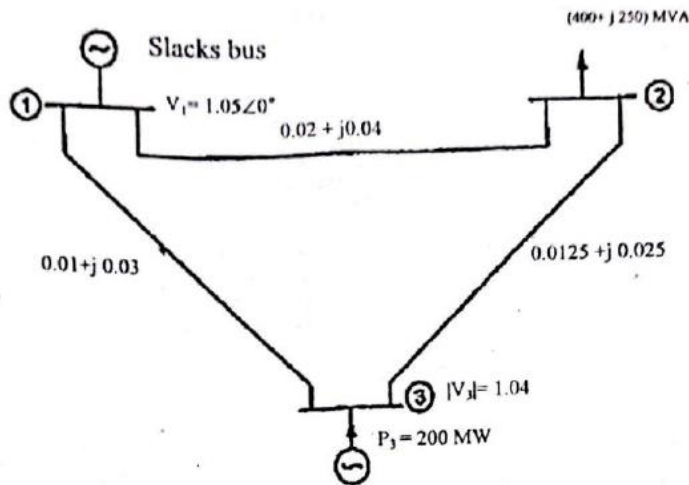

Fig.12.b.
- (b) Single line diagram of a simple power system, with generators at busses 1 and 3 is shown in Fig. 12.b. The magnitude of voltage at bus 1 is 1.05 p.u. Voltage magnitude at bus 3 is fixed at 1.04 p.u. with active power generation of 200 MW. A load consisting of 400 MW and 250 MVAR is taken from bus 2. Line impedances are marked in p.u. on a 100 MVA base and the line charging susceptances are neglected.